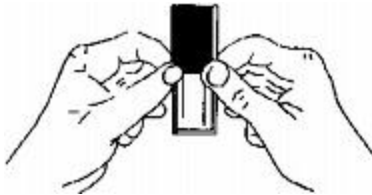

FIG. 1
3. Grip both edges of bag at the center barrier (FIG. 1), and wrinkle and flex the bag across the barrier. This will weaken the barrier.